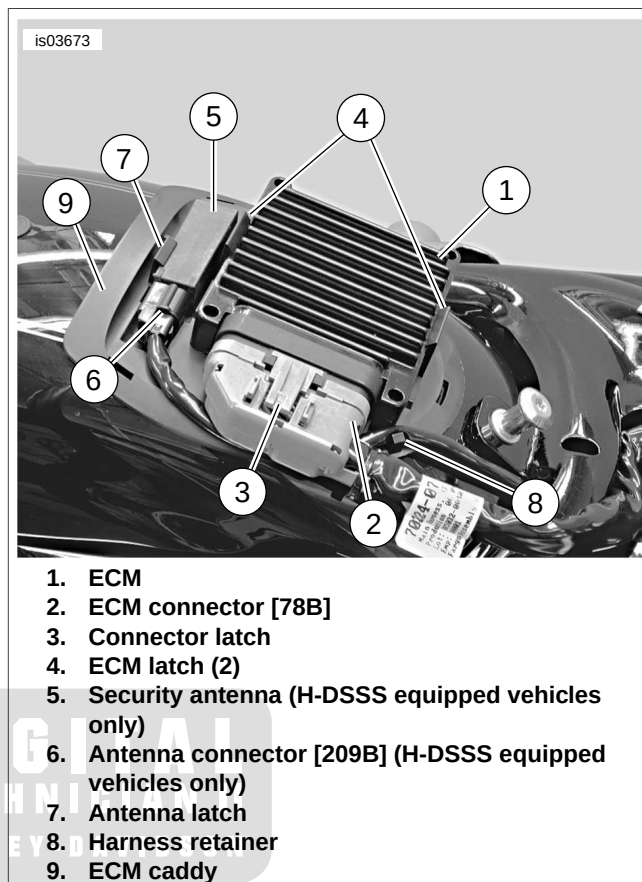
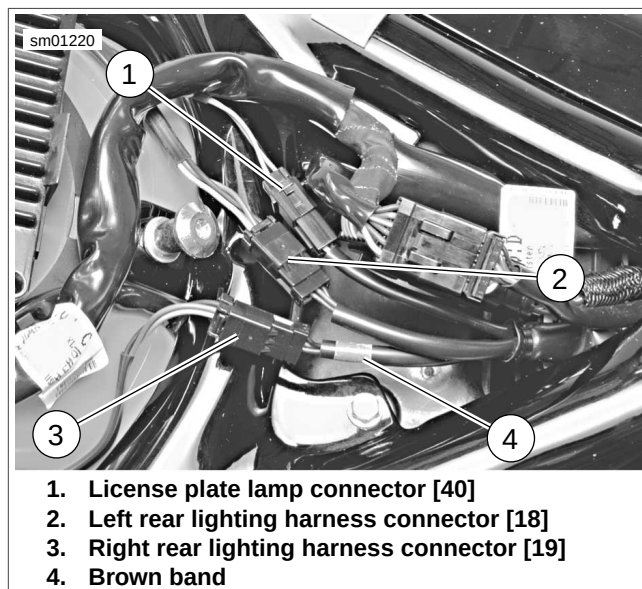

Figure 2-238. Security Antenna (H-DSSS only) and ECM Removal/Installation
Figure 2-239. Rear Lighting Harness Connectors
5. See Figure 2-238. Depress latch (3) and unplug ECM connector [78B] (2). Place ECM harness out of the way.
6. Gently bend back ECM latches (4) and lift ECM off locating pins on ECM caddy (9).
7. **H-DSSS equipped vehicles:** Gently bend back antenna latch (7) and lift security antenna (5) out of recess. Release antenna harness from harness retainer (8) in ECM caddy. Position antenna and harness out of the way.
8. See Figure 2-239. Unplug license plate lamp connector (1) [40]. Unplug right rear lighting harness connector (3) [19]. This connector is identified by a brown band (4) on the harness near the connector. Unplug left rear lighting harness connector (2) [18].
14. See Figure 2-239. Plug in license plate lamp connector (1) [40]. Plug in left rear lighting harness connector (2) [18].
15. Plug in right rear lighting harness connector (3) [19]. This connector is identified by a brown band (4) on the harness near the connector.
16. **H-DSSS equipped vehicles:** See Figure 2-238. Gently bend back antenna latch (7) and position security antenna (5) in recess in ECM caddy (9). Release latch. Position antenna harness in harness retainer (8).
17. See Figure 2-238. Gently bend back ECM latches (4) and install ECM into locating pins on caddy with connector [78A] on ECM body facing right side of vehicle.
18. Plug harness connector [78B] (2) into ECM. Tug gently on connector to make sure connector latch (3) has locked in position properly and cannot come loose.